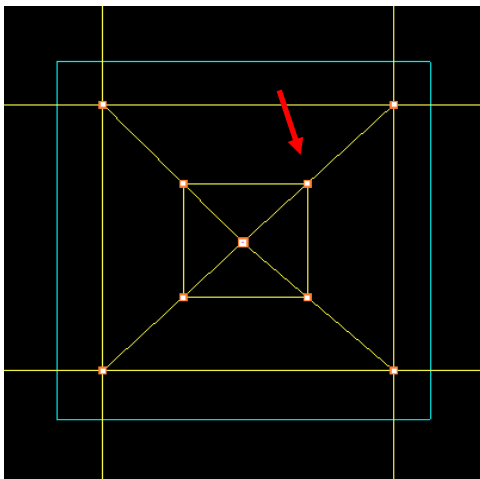

Figure 8.1
- Create an insert in between the two sheets as shown in figure 8.1.